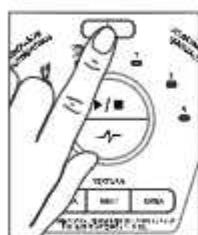

Fig. 19
1. Press the power button to turn the blender on (Fig. 19). The power light will blink, meaning the blender is active and ready to use.
7. Press the power button to turn the blender off (Fig. 19).